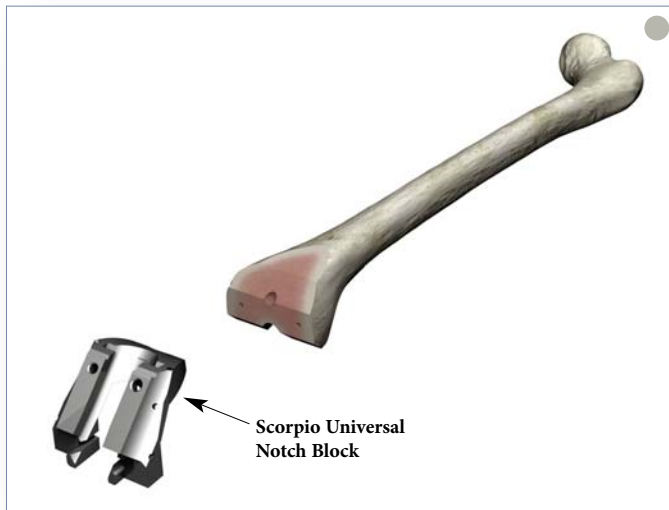

Figure 19
- ▶ Position the Notch Block on the prepared distal femur, aligning the lugs with the holes made by the Femoral Cutting Guide. Tap into place with the mallet (**Figure 19**). To further aid the positioning, if using pegless blocks, note that the block is also the same width as the implant of its respective size.